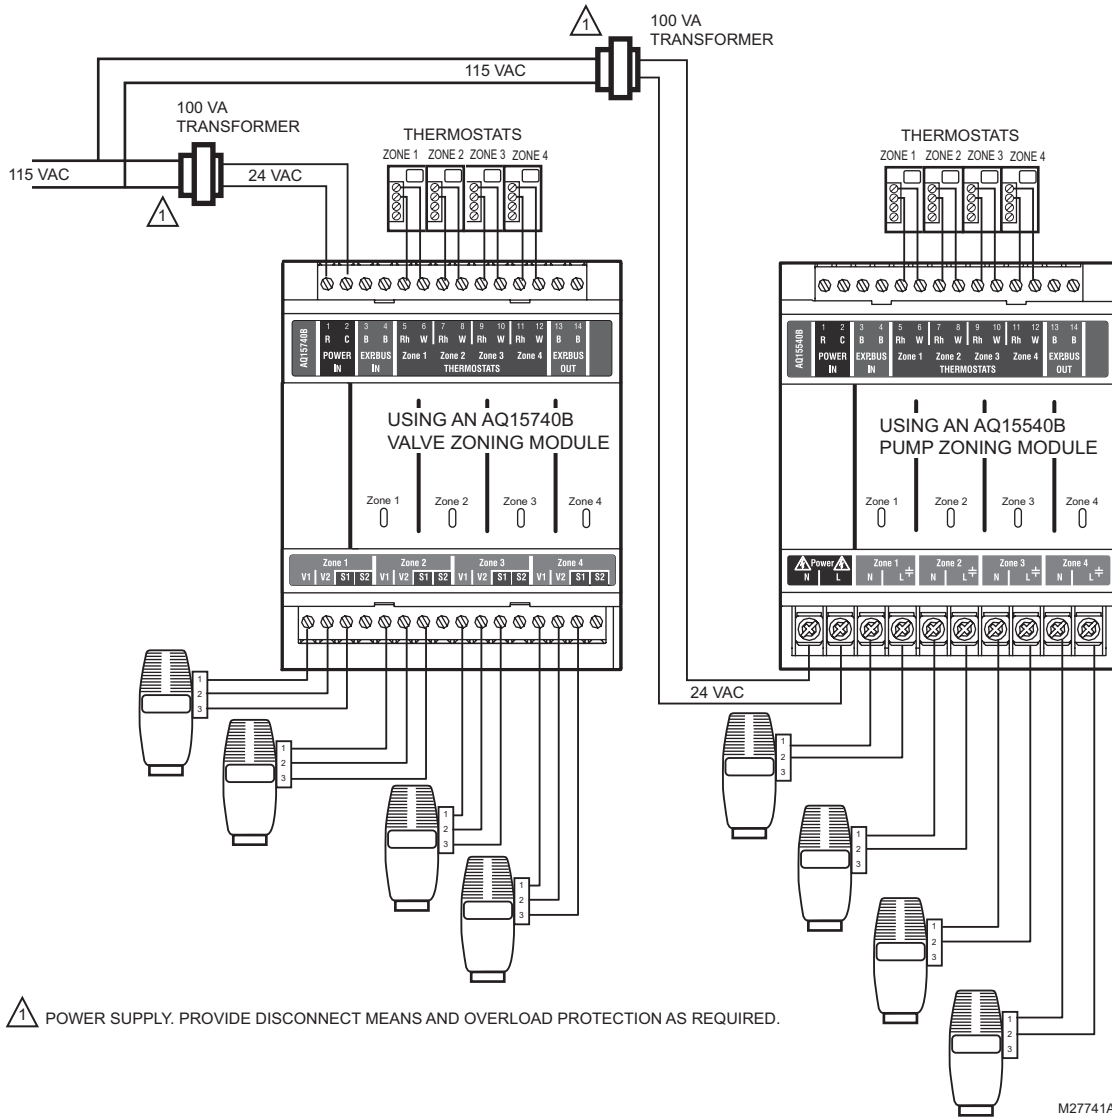

Fig. 14. Wiring of additional low voltage VA capacity.
If low voltage zone valves with end switches are used for zone control, make sure the selected zone valves do not draw more power (VA) than the 38 VA capacity of the AQ10X38 transformer supplied with the AQ251 Control Panel. This integral transformer has enough power to operate 4 motorized zone valves (such as Honeywell V8043E valves or 4 valves using low-amperage draw, heat motor actuators, such as Honeywell MV100 actuators), plus power the electronics of the AQ251's Control Module and up to 16, AQ1000 thermostats. If zone valves with high-amperage-draw heat-motor actuators are used (such as Taco 500 series zone valves), additional 24 Vac transformer capacity will need to be wired to the Zoning Module to power the valves. See Fig. 14 on page 11 for recommended wiring of additional low voltage VA capacity to AQ2000 Series Zoning Modules.